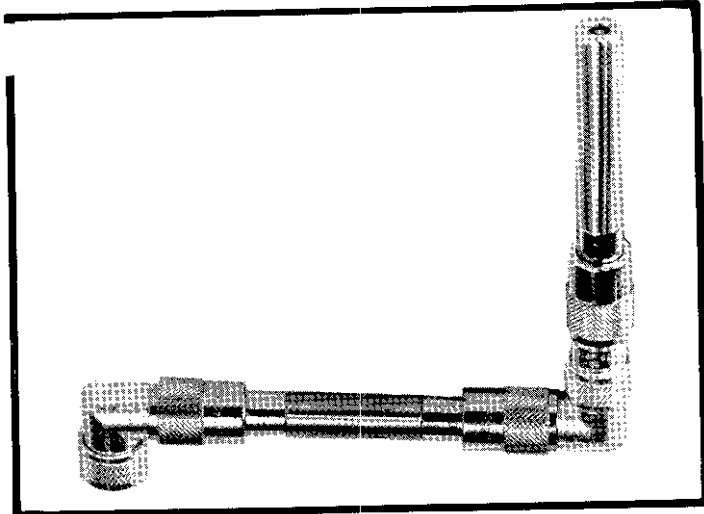

FIGURE 21. Model 2503 Static Detector Probe.
b. The Model 2503 (Figure 21) is similar to the Model 2501. However, its head is 1/2 inch in diameter and it connects directly to the Electrometer without any cable.